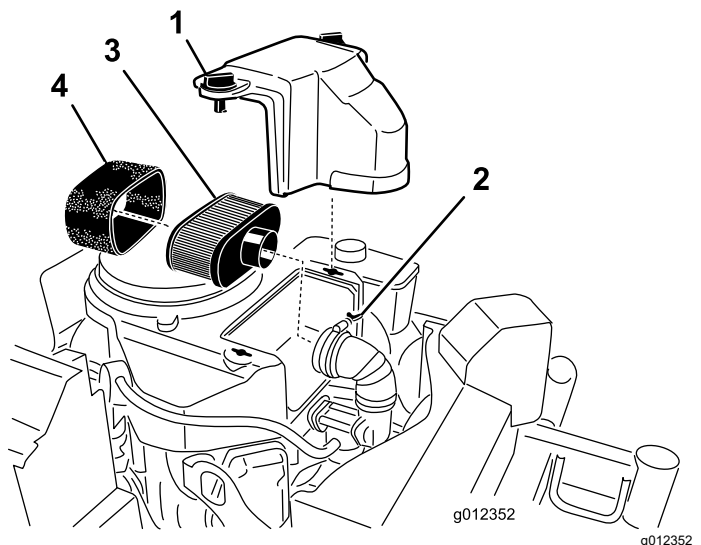

Figure 37
2. Clean around the air cleaner to prevent dirt from getting into the engine and causing damage (Figure 37).
3. Rotate the cover knobs 1/4 turn counterclockwise and remove the air-cleaner cover (Figure 37).
air-cleaner assembly from the inlet duct (Figure 37).
5. Carefully pull the foam element off the paper element (Figure 37).
1. Inspect the element for tears, an oily film, or damaged (Figure 37).
1. Inspect the element for tears, an oily film, or damage to the rubber seal (Figure 37).
1. Carefully slide the foam element onto the paper air-cleaner element (Figure 37).
2. Align the air-cleaner assembly onto the inlet duct and secure it with the hose clamp (Figure 37).
3. Align the air-cleaner cover onto the engine cover and secure the cover by rotating the cover knobs 1/4 turn clockwise (Figure 37).